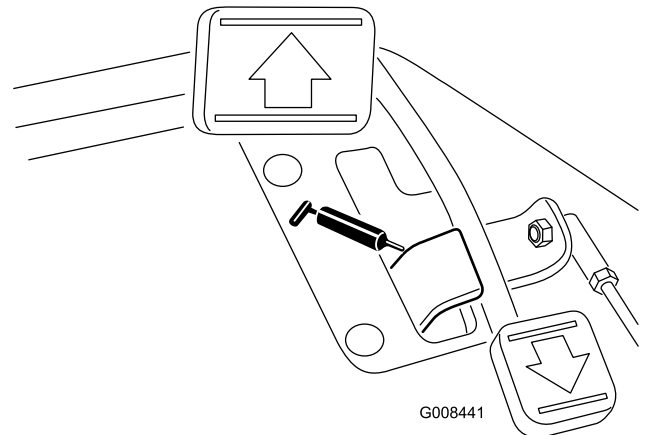

Figure 43
- Traction pedal pivot (1) (Figure 43)